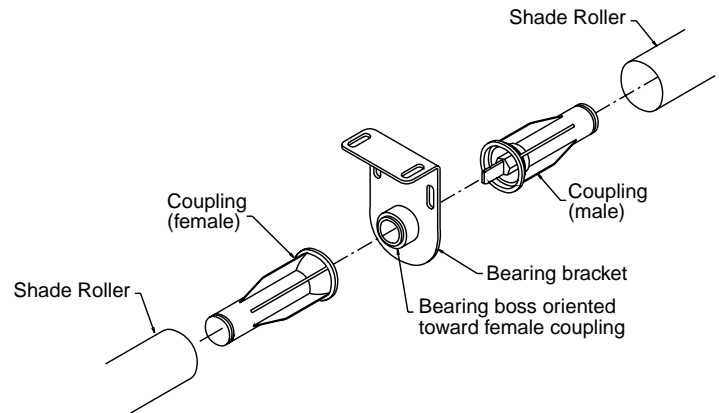

Figure 3
- ① Mount brackets/endcaps (see "Mounting Brackets and Endcaps" above).
- ② Attach operator (motor) end of first shade to the bracket and insert coupling into other end roller (see Fig. 3).